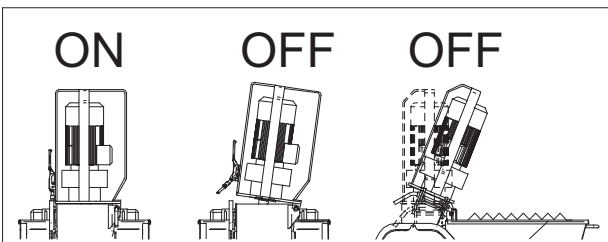

FIG.11
Secure the machine in place by means of the wheel brake (ref.5 fig.11).
! - Opening of the mixing chamber causes shutdown of the machine moving parts (fig.11). First close the mixing chamber and press the start pushbutton to start the machine.